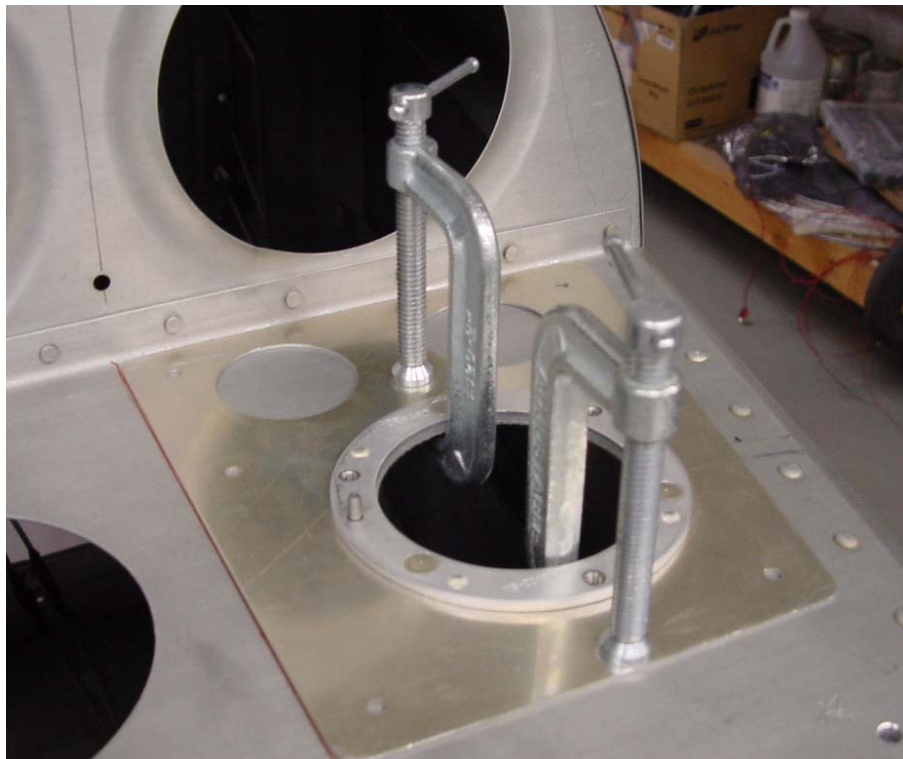

Figure B-2 RV-7/9 GMU 22 Mounting Bracket on the F714 Aft Deck
2. Place the GMU 22 mounting bracket on the F-714 aft deck (see Figure B-2).
3. Slide the GMU 22 mounting bracket forward, make sure the front edge is against the vertical portion of the F-714 aft deck (see Figure B-2).